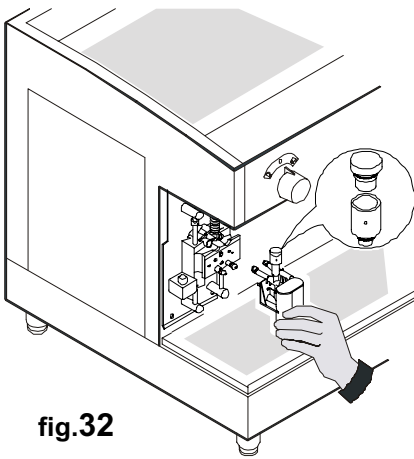

fig.32
4. Remove the cappuccino maker and clean all the components thoroughly (fig.32). Dip the components in a mixture of 400 ml of warm water and 40 ml of the special detergent and leave them to soak for one hour. Rinse all parts with hot water.